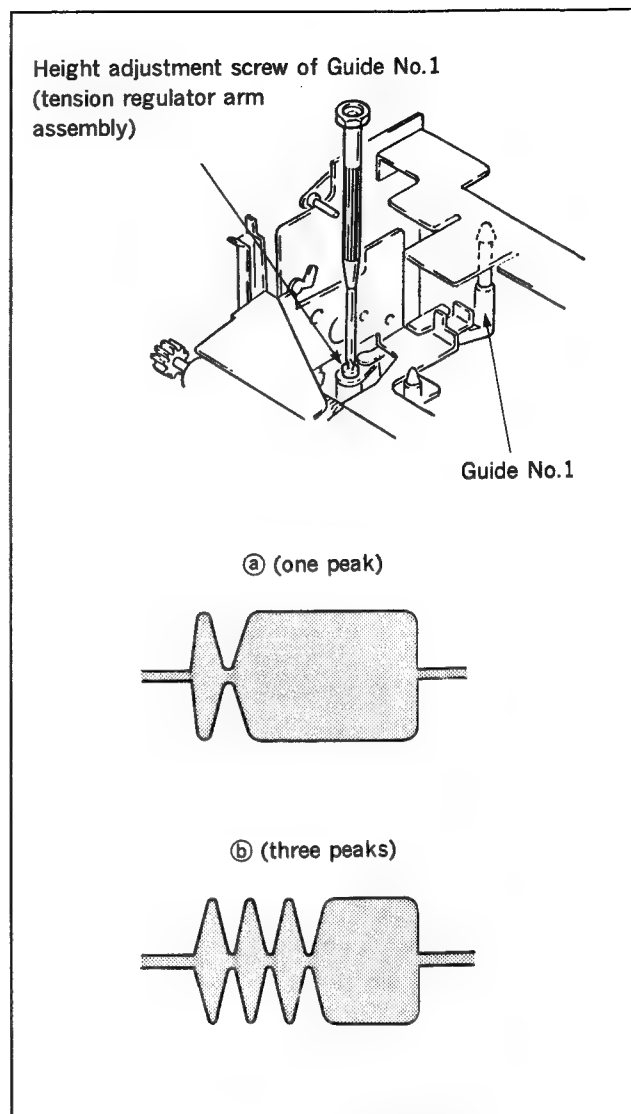

Fig. 6-2-2 Entrance side rough adjustment (2)
- 1) When the wave shape in Fig. 6-2-2 (a) has only one peak or less, rotate the height adjusting screw of Guide No.1 in clockwise direction. It causes raising the height of Guide No.1.
- 2) When the wave shape in Fig. 6-2-2 (b) has more than four peaks or more, rotate the height adjusting screw of Guide No.1 in counterclockwise direction.